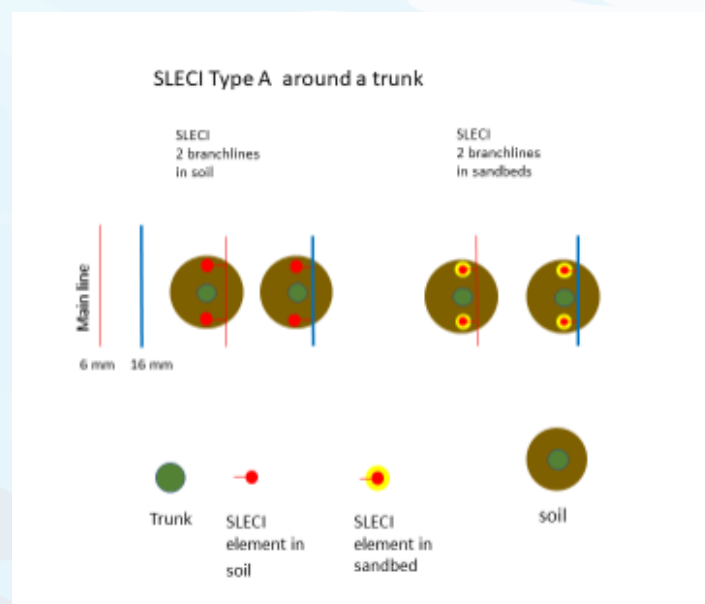

Figure 3-1e: SLECI system Type A variants for older crops
- Fig. 3-1e: Installation for older plantings